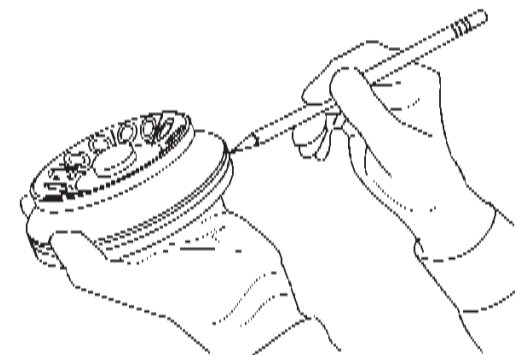

Figure 6. Checking the outer rim of the rotor.
- The outer rim of the rotor. The rotor is comprised of two pieces which have been ultrasonically welded together; any movement felt between the bottom and top pieces indicates that a weld has been broken, rendering the rotor unsafe. (See figure 6.)
- Hidden mechanical damage may be detected by an increase in noise or vibration during a spin. Again check the rim for looseness. (See figure 6.)